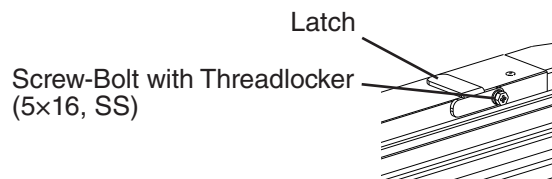

Fig. 25
- 8) Remove the door latch from the lower door. See Fig. 25.